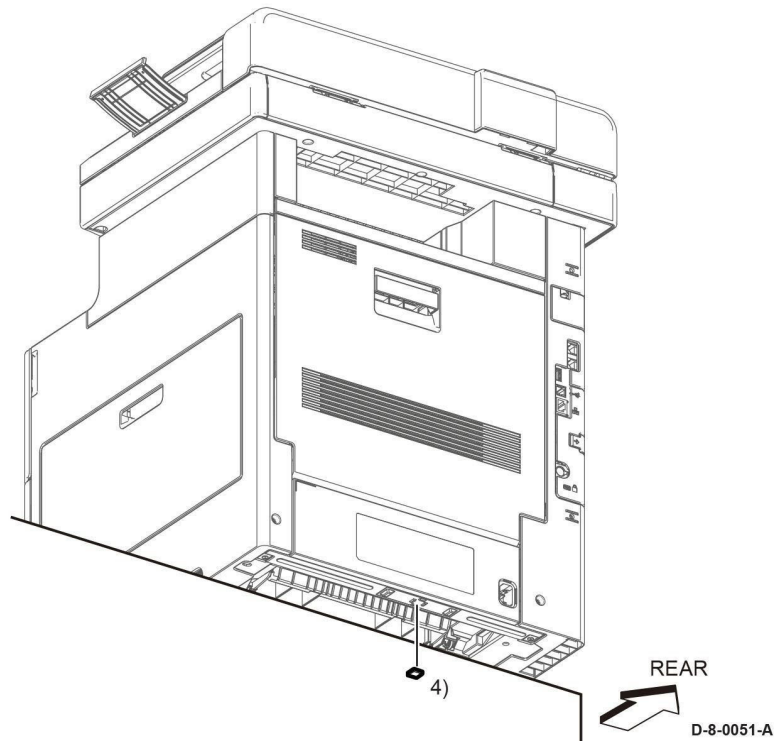

Figure 2 Install New Rear Bottom Foot
4. Refer to **Figure 2** to install a new back foot.